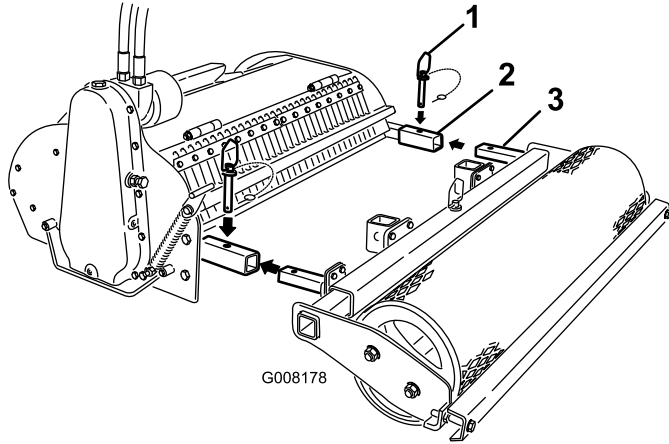

Figure 3
4. Remove the pins from the arms of the cultivator (Figure 3).
5. Slide the arms on the roller into the arms on the cultivator and secure them with the pins (Figure 3).